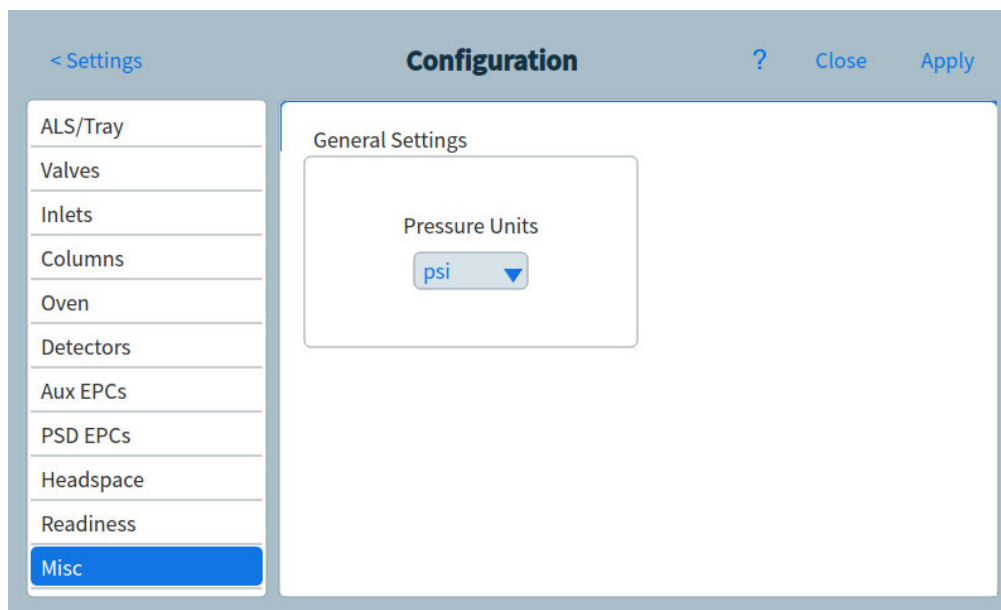

Figure 73. Miscellaneous settings page
- 1 Select **Settings > Configuration > Misc.** See **Figure 73**.